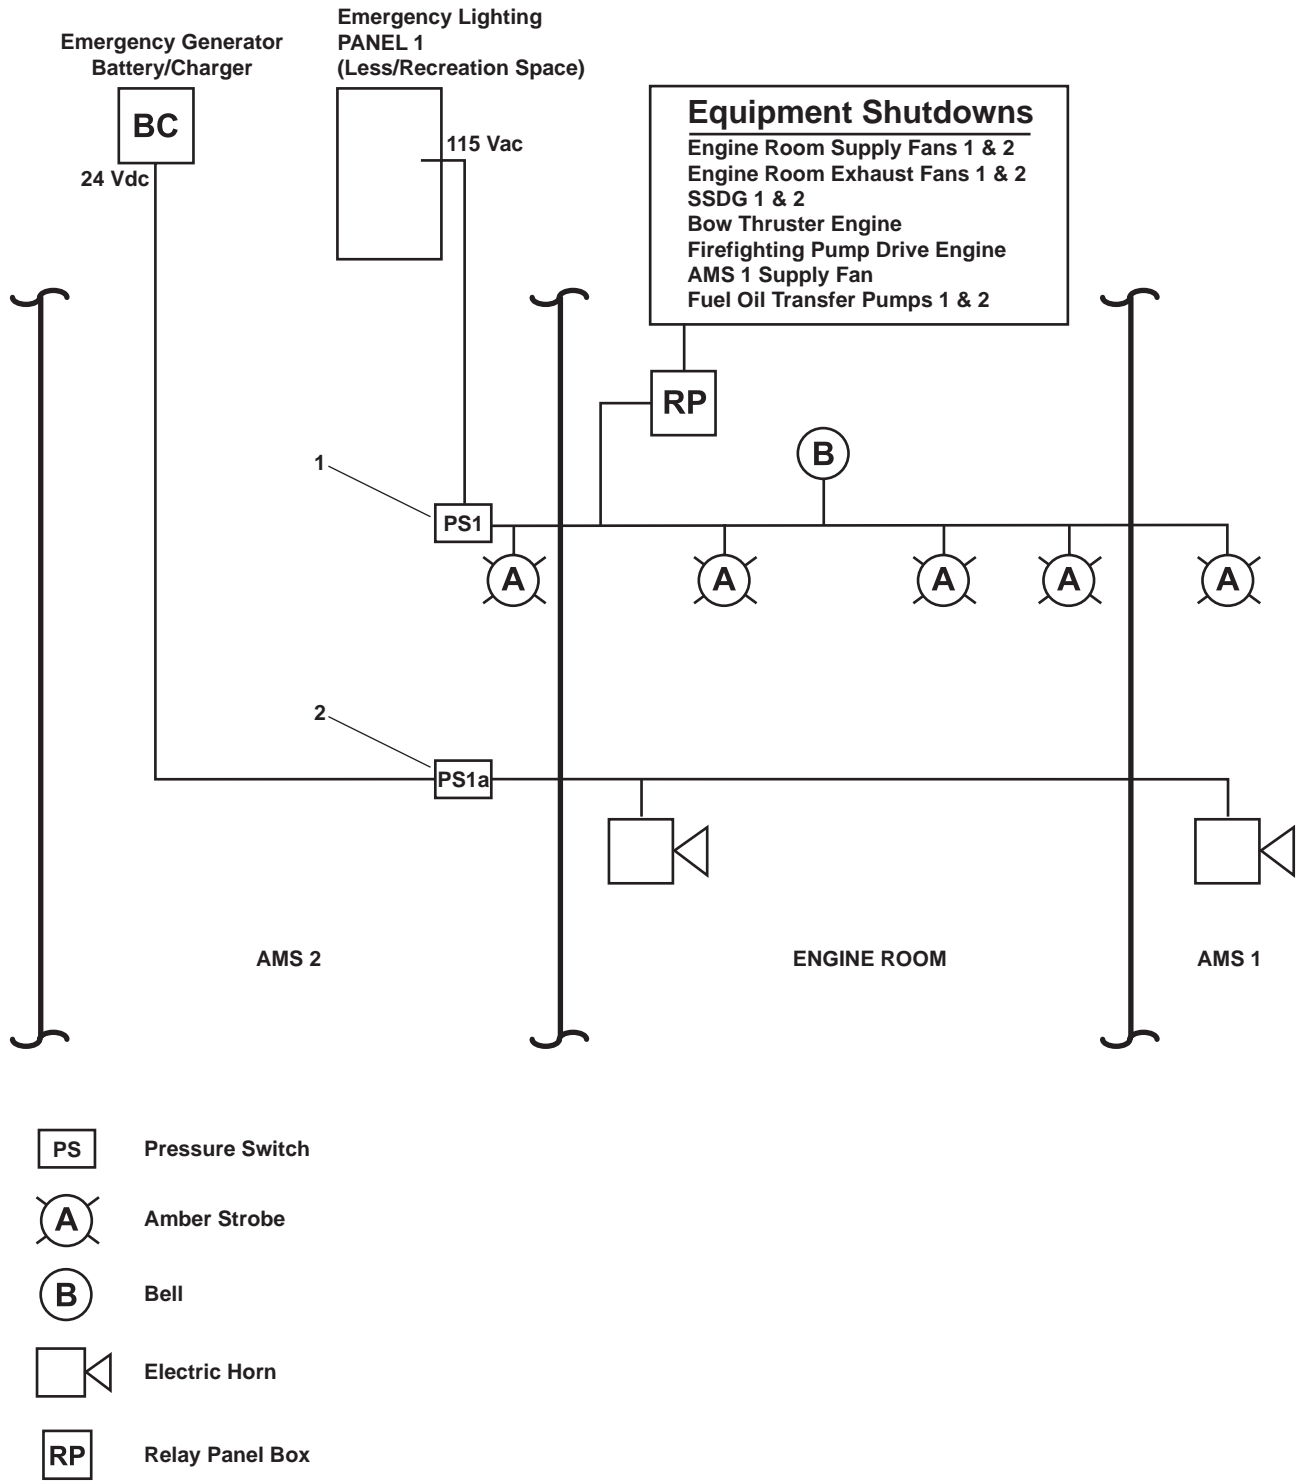

Figure 10. Fire Suppression Alarm System Schematic
The strobe lights and bell are powered by emergency lighting panel 1 via pressure switch PS-1 (figure 10, item 1). The fire suppression alarm system has two horns. One horn is mounted in the engine room and the other in AMS 1. The horns are powered by the emergency generator battery charger circuit via pressure switch PS-1A (figure 10, item 2). As seen in figure 10, the use of two separate power sources provides greater assurance that personnel in the hold level will be warned if the FM-200 fire suppression system is activated.